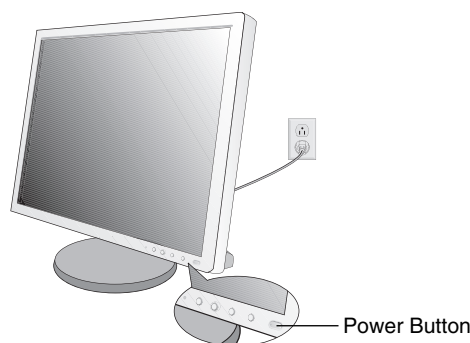

Figure C.1
7. Turn on the computer, then turn on the monitor by pressing the power button on the front bezel (**Figure C.1**).